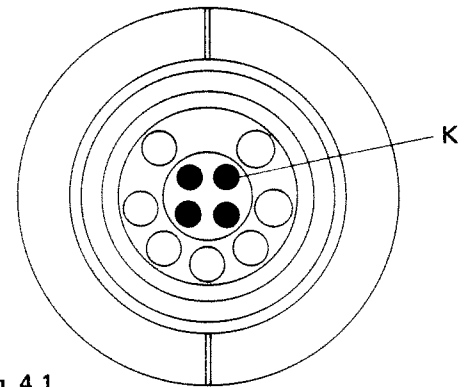

Fig. 4.1.
- 4.2. Remove existing ion source and/or cover plate. Four ceramic studs (K) will now be visible near the end plate of the QMA 140 (Fig. 4.1.)